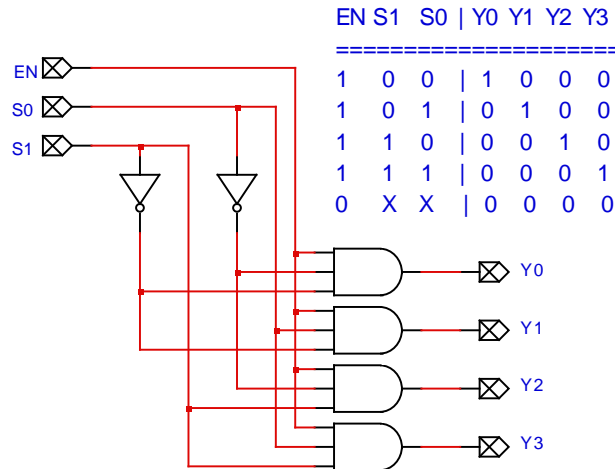

Figure 1. 2-to-4 decoder
A *decoder* is a switch used to “turn on” exactly one item out of a set. A decoder made from four 3-input AND-gates is shown in Figure 1. The input signals are an enable signal EN and two select lines, $S0$ and $S1$. Since the enable signal is directly wired to all four AND gates, when $EN=0$ the outputs are all inactive (0). On the other hand, when $EN=1$, the select lines are connected such that exactly one gate is chosen to be ON based on the value of $S0$ and $S1$. For example, look at the AND gate connected to $Y1$. Its top input (like all the other gates) is connected to EN . The middle input is connected directly to $S0$, and the bottom input is connected to $S1$ through an inverter. Thus, $Y1 = \overline{S1} \bullet S0 \bullet EN$. (The dots indicate logical AND function.). That is, $Y1$ is active when $(S1, S0) = (0, 1)$ (binary representation of the number 1) and EN is active. The remaining gates are connected in a similar fashion so that they are active when the appropriate number is put on the select lines $S0, S1$.
The decoder design shown in Figure 1 is called a 2-to-4 (2:4) decoder because it has two select lines and $2^2 = 4$ output lines. Decoders are usually referred to by size in this fashion (n to 2^n decoders).
A demultiplexer performs the inverse operation of a multiplexer: it takes a single input line and connects it to exactly one output line, all other output lines being inactive. If you take a look at the 2-4 decoder in Fig. 1, you’ll see that it also serves as a 1-4 demultiplexer when you use the EN line as the input signal. For example, suppose $S1=1$ and $S0=0$ so that output line Y2 is selected and all other outputs are inactive. If $EN=1$, then output Y2 is also 1. Conversely, if $EN=0$, then so is Y2. In other words, a demultiplexer and a decoder are exactly the same thing.